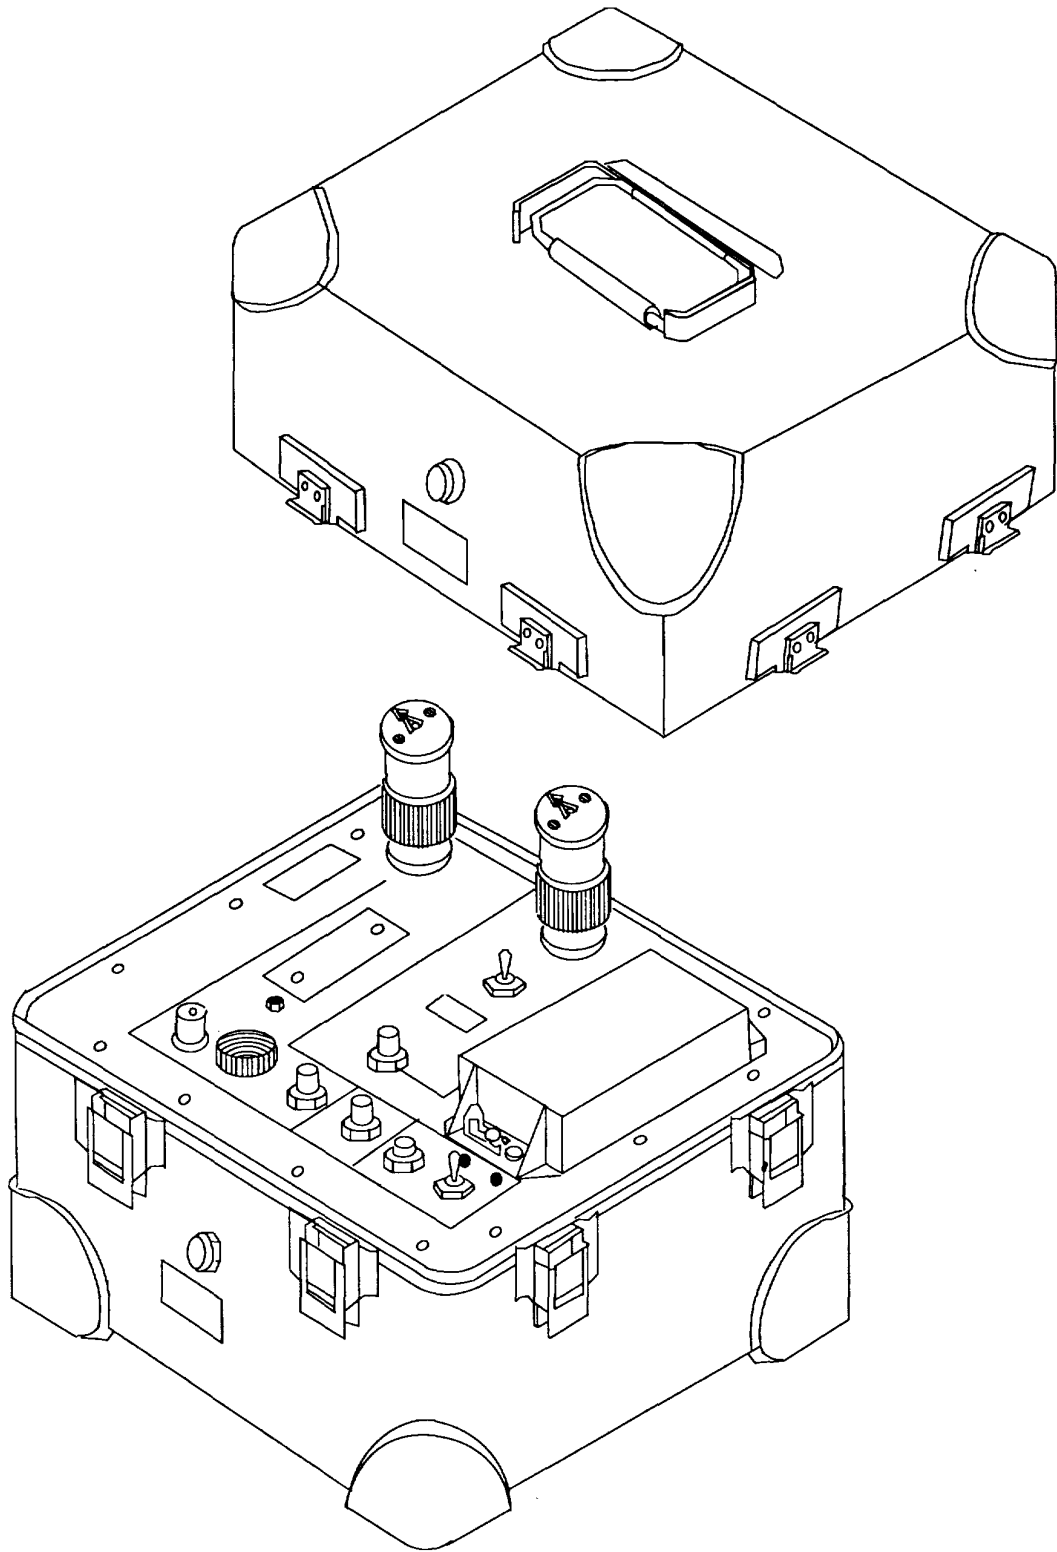

FIGURE 1-1. Optical Communications Test Set TS-4117/G.
- b. **Equipment Name and Model Number.** Optical Communications Test Set TS-4117/G (refer to Fig. 1-1).